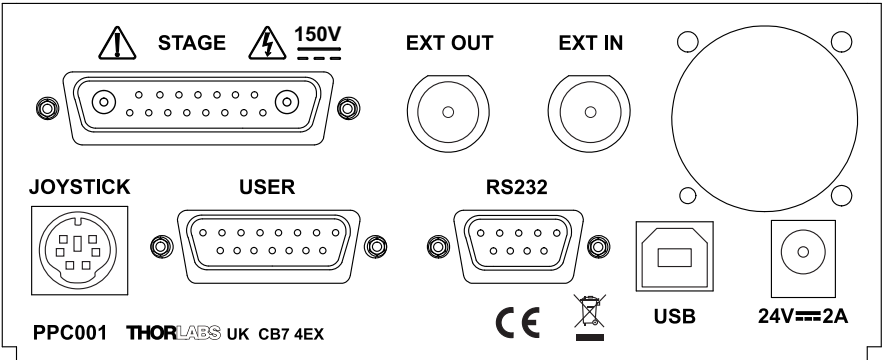

Fig. 3.6 Rear panel connections
- 2) Connect the focus mount to the Controller unit - see Fig. 3.6